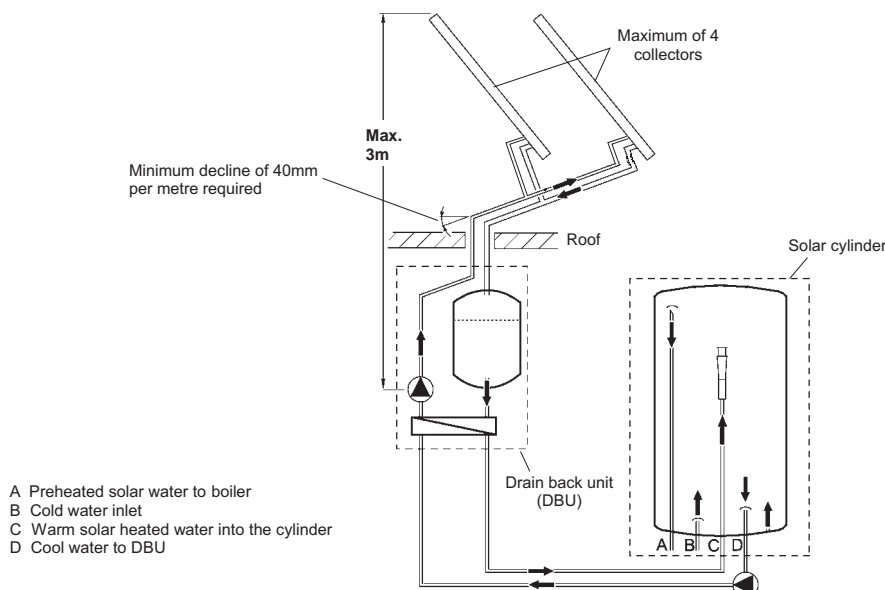

Fig. 8
The DBU must be located within a height of 3 metres of the top of the Solar collectors, see Fig. 8. The pipework from the collectors to the DBU **must always** fall by a minimum of 40 mm per metre and **must be** insulated with high temperature pipe insulation.
- b. Positioning of a landscape collector onto a flat roof:** Using the Alpha Flat Roof Kit (Part No. 6.4000800), the collector is mounted on the framework supplied. The collector is fixed at an inclination of 30° and ballast is used to secure the frame in the required position. Refer to Fig. 8 for details of location of the drain back unit in relation to the collector. Full details of this type of installation are provided in the instructions supplied with the kit.